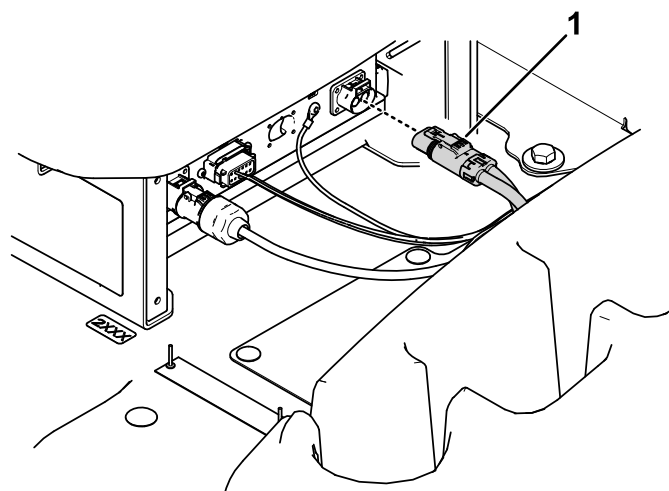

Figure 15
3. Remove the DC power connector from the charger (Figure 15).
- Install the DC power connector to the charger (Figure 15).